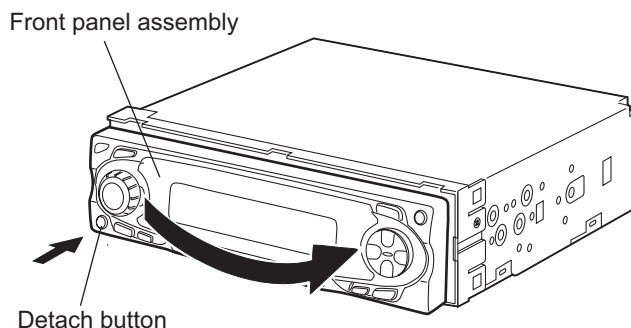

Fig.1
2.1.1 Removing the front panel assembly (See Fig.1)
2.2.1 Removing the top cover (See Figs.1 and 2)